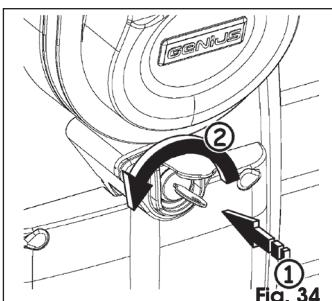

Fig. 34
1. Insert the personalised key and take the beam to its "**STOP**" position rotating it anti-clockwise until it stops, Fig. 34.